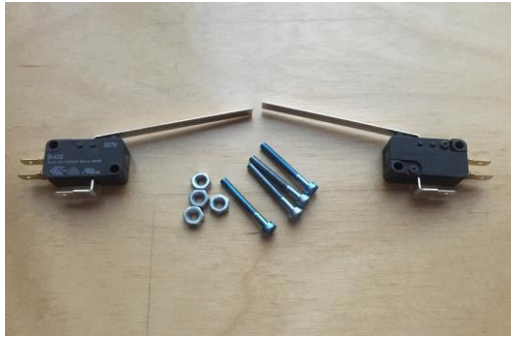

Fig.5.3
- Get two snap action switches (D429-R1ML-G2) and four screws (M3x25mm) and nuts (Fig.5.3).